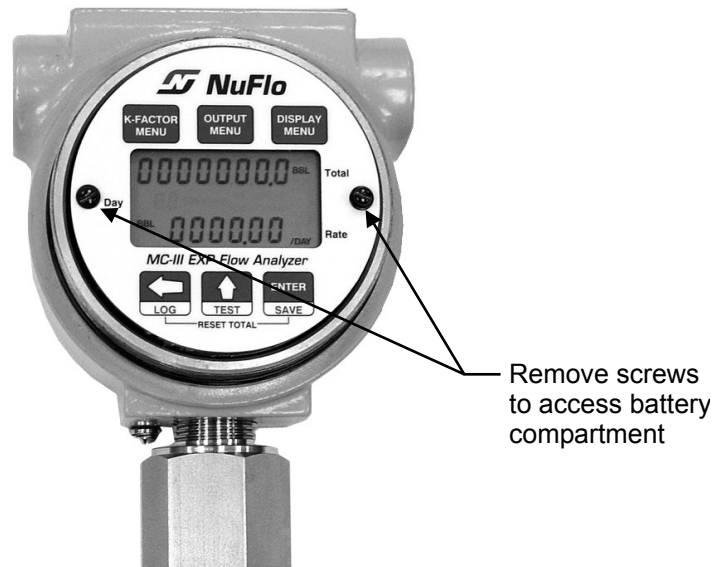

Figure 6.3—Removal of faceplate/keypad assembly
2. Using a small standard blade screwdriver, remove the two #4-40 × 7/8” screws located to the right and left side of the display (Figure 6.3, page 94).